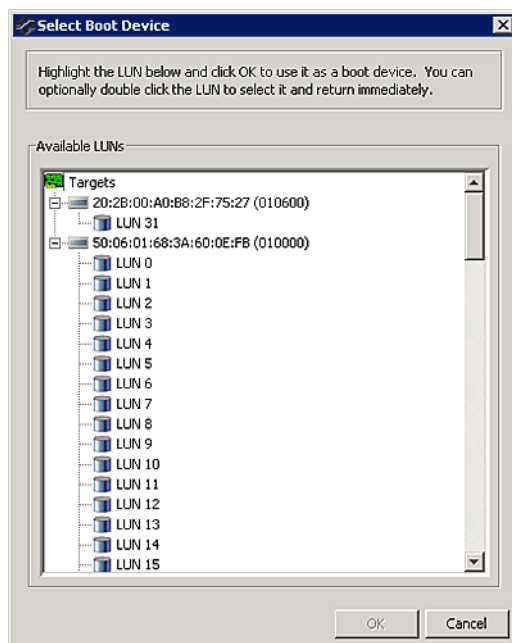

Figure 11-2 Select Boot Device Window (for x86 or EFIBoot)
- Click **Select from List**, select the target from a list of discovered LUNs (if available) and click **OK** on the Select Boot Device window. While you can manually enter the target and LUN from the Boot from SAN Configuration dialog box, it is easier to select an existing LUN from this window. (See Figure 11-2.) The OneCommand Manager application attempts to update the boot parameters. If successful, a window appears with a confirmation message. Click **OK** on this confirmation window.